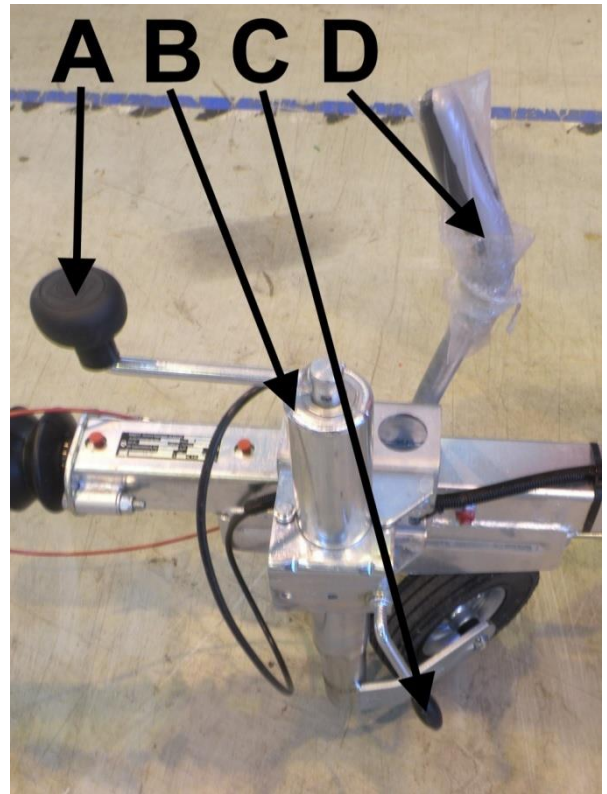

Figure 3.
2. Lower the ball coupling on the towing vehicle's hook with the crank A (in Figure 3) until the lock's handle F turns to the lowered position automatically (indicator shifts to the green area of the label). This means that the coupling is locked on the hook.
3. Lift the front wheel B to the upper position and tighten it with the fastener C (in Figure 3) so that it will stay firmly in place during transit.
5. Disengage the handbrake by turning the lever D down (in Figure 3).